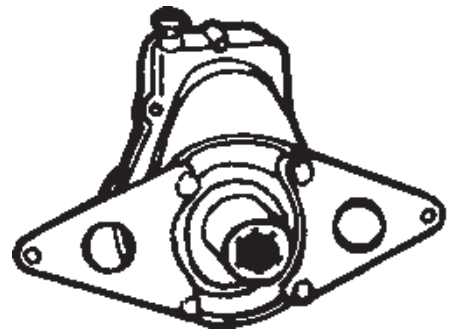

Fig.5 Inlet for power take-off.
4.1.D - For machines with pump on the tractor power take-off (GI)
- Insert the gearbox (fig. 5) directly in the tractor power take-off.